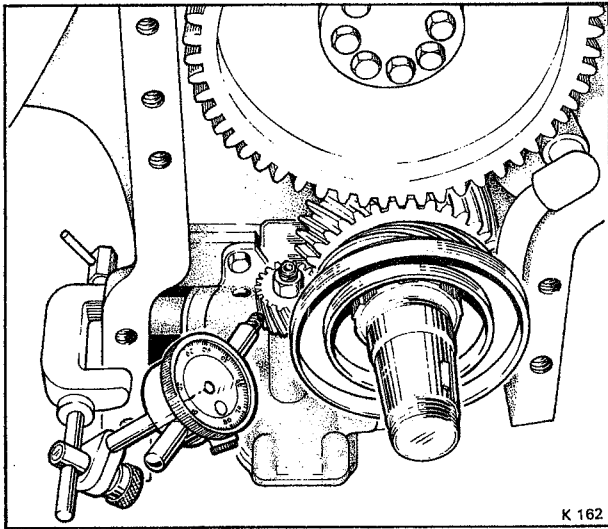

Fig. E46 Checking backlash on the oil pump gears
3. Ensure that the backlash between the driving gear on the crankshaft and the gear on the pump is correct (refer to Section E3, Dimensional data and refer to Fig. E46).